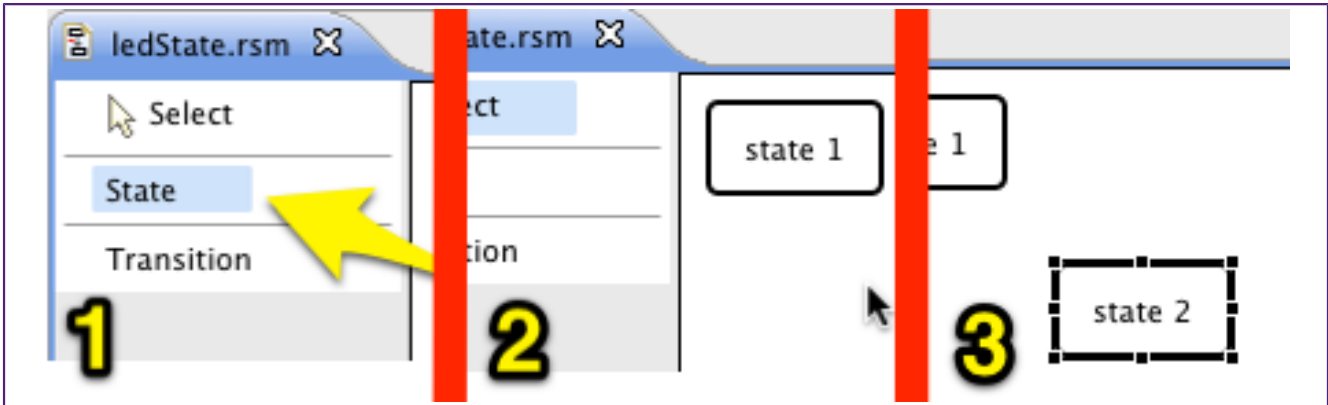

Figure 9.3. Adding a new state
2. Click where you would like to place it in the editor (see Figure 9.3).